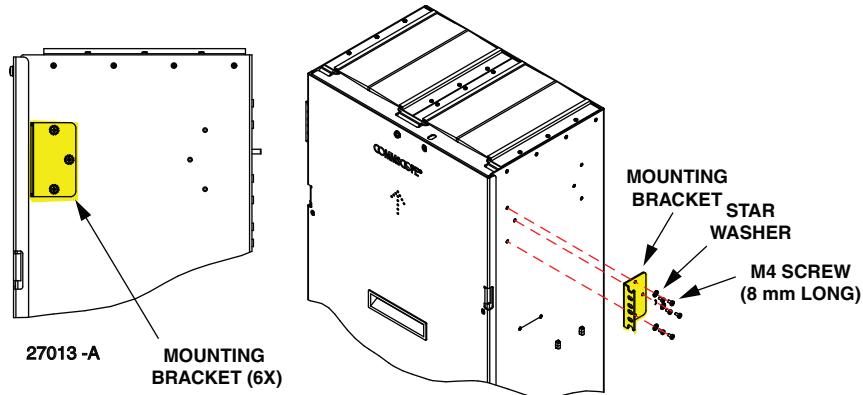

Figure 8. Four Post Installation Mounting Bracket Location
1. Select and install the appropriate mounting brackets (Figure 8).